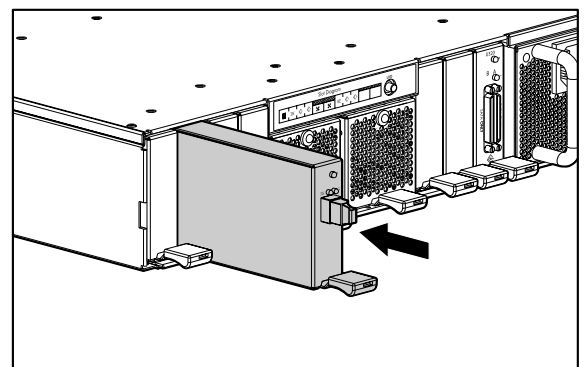

Figure 11: Installing the Fibre Channel I/O module
1. Slide the Fibre Channel I/O module into the bay until it clicks into place as shown in Figure 11.